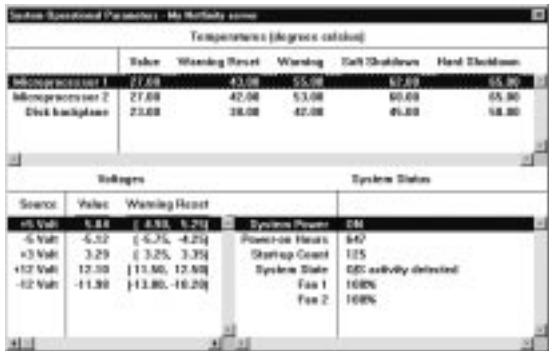

Figure 6. The Operational Parameters window
**Operational Parameters:** The Operational Parameters window (see Figure 6 on page 66) shows the current values or status of many system components monitored by the system management subsystem.